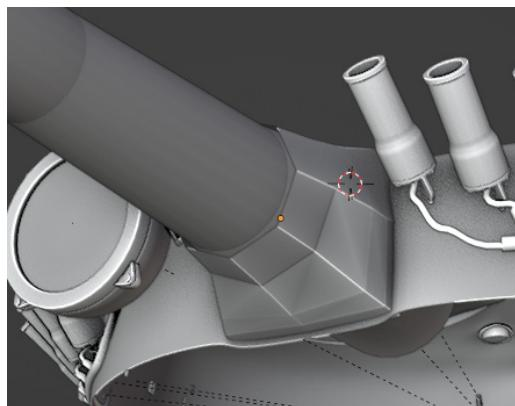

Figure 9.32 – Mantlet bottom
4. Also fit the shape to the turret at the bottom of the gun, as shown in *Figure 9.32*: